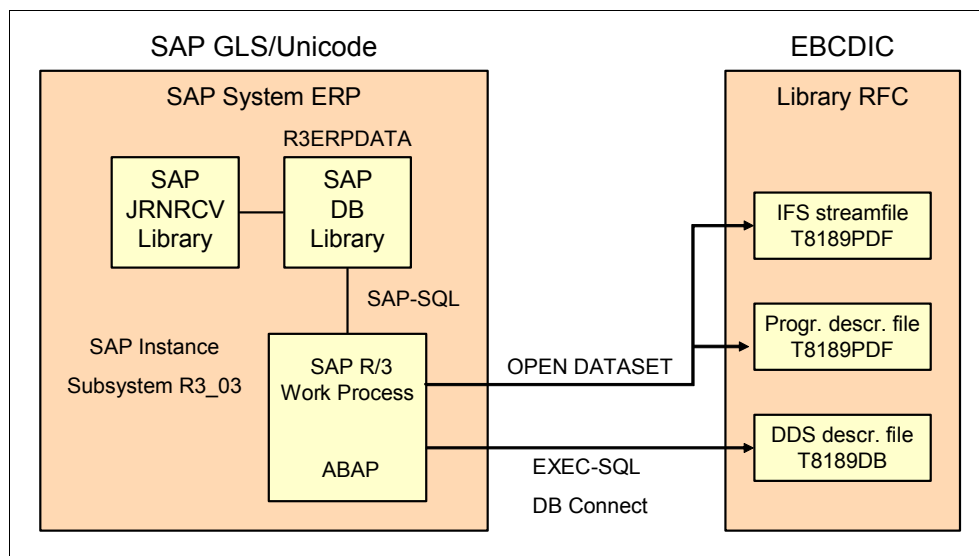

Figure 29-19 ABAP data access
- **OPEN DATASET:** Use text mode to access Integrated File System stream files or program-described physical files. The ENCODING parameter provides code page conversion between the SAP code page environment (UNICODE or GLS ASCII) and the i5/OS EBCDIC environment. Figure 29-19 illustrates the logic of accessing non-SAP data with an ABAP program.